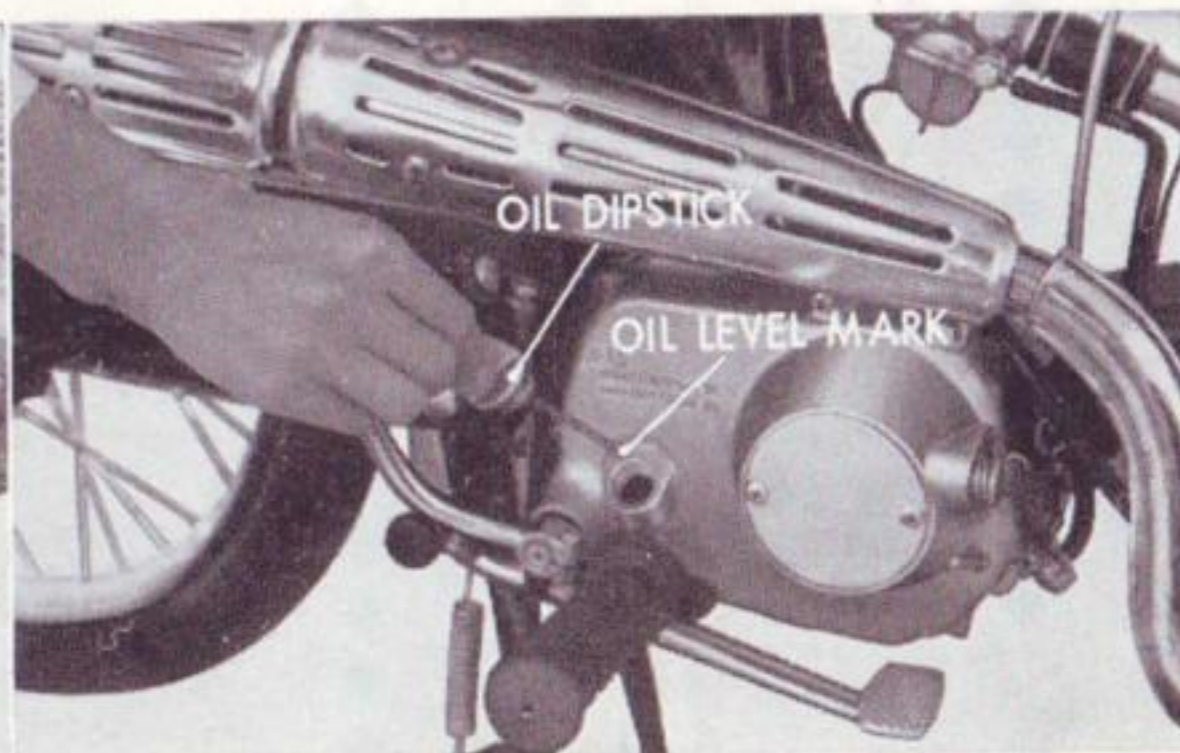

Fig. 21
3. Insert oil dipstick to measure the oil level. The dipstick is calibrated to read correctly without screwing it in. (Fig. 21)